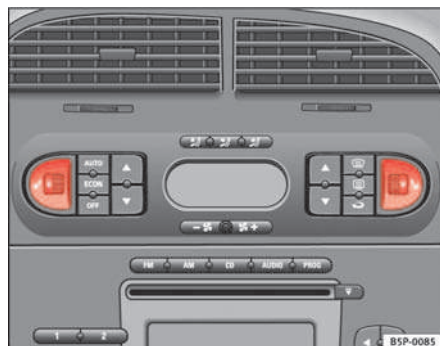

Fig. 95 Thumb wheel for the front seat heating
- Turn the appropriate thumb wheel $\Rightarrow$ fig. 95 to switch on the seat heating. The seat heating is switched off in the 0 position.